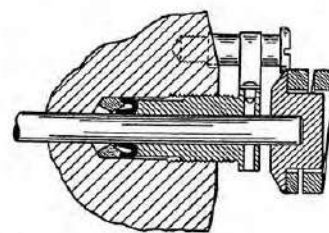
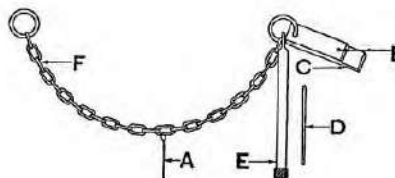

Fig. 44. SPRAYER GLAND PACKING.
Fig. 45. SPRAYER GAUGES AND CHAIN.
(1) **Sprayer Gauges.**—To measure the lift of the spindle accurately, the crossbar should be put into position on the studs with the spring removed but the valve spindle in place. Take the little plate gauge C, Fig. 45, which will be found hanging by a chain to the sprayer and insert the end C between the end of the sprayer valve collar H, Fig. 20, and the end of the stud L in the crossbar. Then adjust and lock the stud firmly in the crossbar in such a position that the end C of the plate gauge, furthest from the chain, will just enter freely between them. It should be understood that this gauge is provided to record the previous conditions of the sprayer when the engine was tested. It is just possible that some slight modification to these gauge conditions may be advisable to suit local conditions, such as the quality of the fuel oil used, etc., but we do not usually recommend any change, and in any case any modifications should be very slight.
(2) Particular attention must be paid to the periodical cleaning of the sprayer and its oil strainer. Withdraw the plug P (see illustration on page 18) daily for three or four days when the engine is first put to work and wash off all dirt or fluff. After this period it should be cleaned out weekly or monthly as the attendant may find sufficient, bearing in mind that it is impossible for the engine to run well and economically if the engine is in a dirty condition. If, therefore, the fuel oil is unusually dirty or the strainers on the oil tank or in the oil heater are allowed to become broken and inefficient, the sprayer, and the strainer on the sprayer, may have to be cleaned more frequently.
(3) The packing of the sprayer gland must always receive careful attention. In the original type sprayers this was done with soft packing. An improved type of packing has, however, now been adopted, which consists of special cup packing rings, see Fig. 44. We strongly recommend this new type packing, and by using a gland ring and new type gland, as illustrated, existing sprayers can be converted to its use.
(4) When cleaning the sprayer body and its nozzle and spindle (either in the first instance or after running), they should be carefully washed in paraffin, and the small holes in the end of the nozzle cleaned out carefully with a fine wire. Under no consideration must these holes be enlarged, as their size is of great importance. A hole is drilled in the plate gauge referred to in Note 1 above (see Fig. 45). In some cases two holes are drilled therein, to correspond to two sizes of holes drilled in the nozzle. In this case and unless a special separate instruction is issued to the contrary, the centre hole in the sprayer should be the same size as the smaller hole in the plate gauge, and the outer holes in the sprayer should be the same size as the larger hole. A small wire or wires A will be found attached to the chain F, carrying the plate gauge. This is a wire gauge and will be found to just pass into the hole or holes in the plate and the holes in the sprayer nozzle. If the holes in the sprayer nozzle are appreciably larger than the holes in the plate gauge (which can easily be ascertained by trying the wire gauge in both the plate and the nozzle) the nozzle should be changed for a new one. Small reamers for cleaning out the sprayer holes will be found in the little brass tube E attached to the chain. They must be used very carefully so as not to do more than clean any carbon out of the holes. The holes must not be made larger than the holes in the plate gauge and for this reason the reamers must only be used with one's fingers and not with any form of holder.